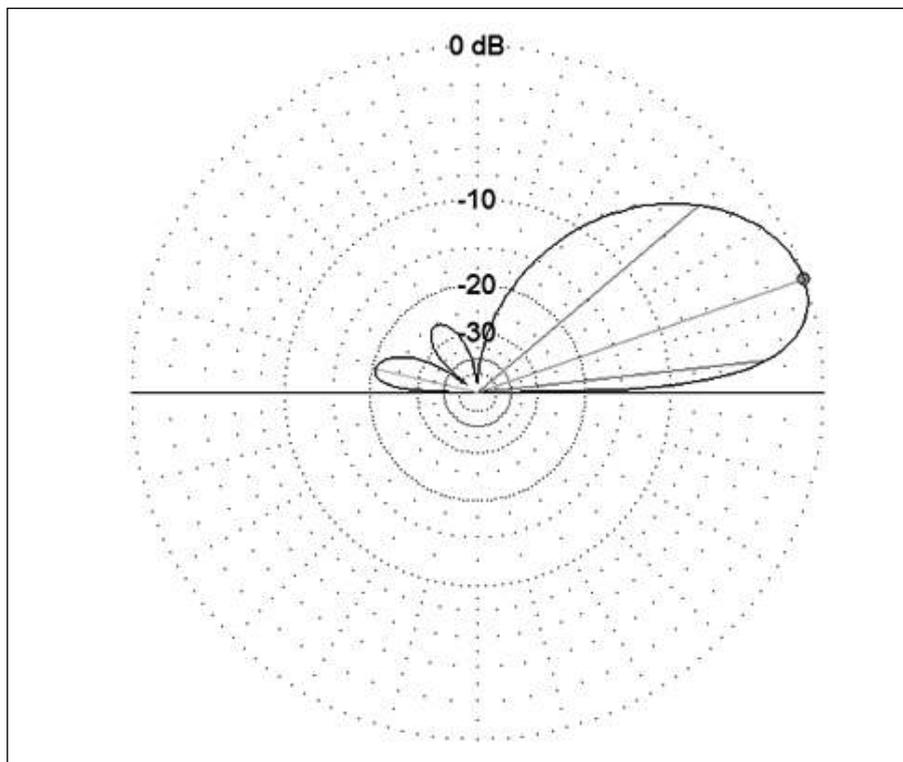
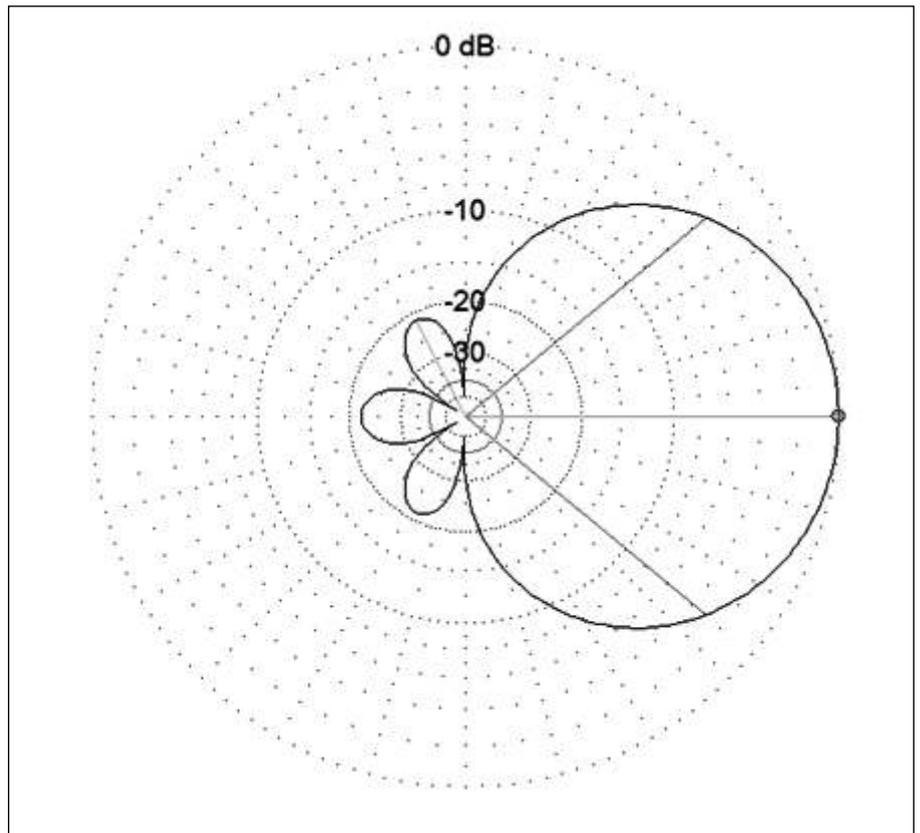

Figure 3 — 160-meter elevation pattern
Figure 4 — 160 meter azimuth pattern at a 20° take-off angle.
*EZNEC's* “high accuracy” ground model was employed, assuming “average” ground at a frequency of 1.83 MHz. The ground connection at each vertical was modeled as a four foot ground rod, which *EZNEC/4* allows, because it uses the *NEC-4* engine that can handle buried wires. Several thousand ohms of termination impedance were also added at the feed points of each vertical to model the high-impedance amplifier input. Figure 3 shows the calculated elevation pattern while Figure 4 depicts the azimuth pattern at a  $20^\circ$  takeoff angle.